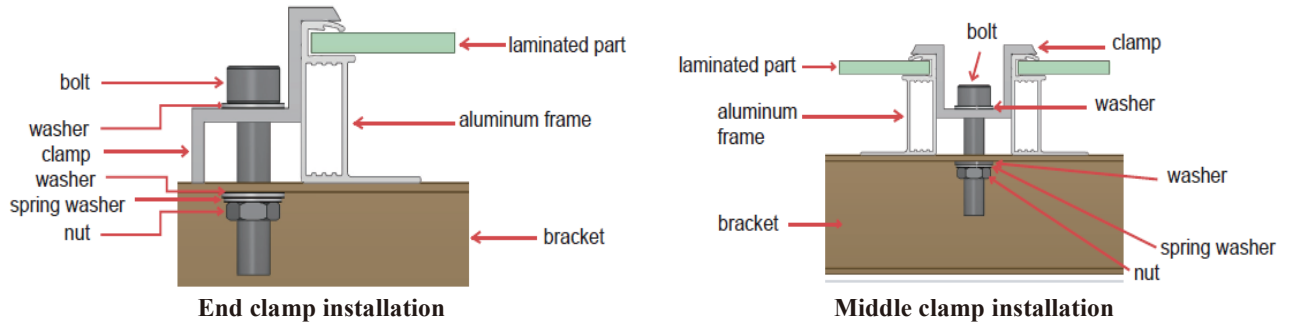

Figure 8 Schematic diagram of clamp installation
- For installation where mounting rails run parallel to the frame, the frame must overlap the rails completely or the overlapping distance must ≥20mm. As shown in Figure 8.